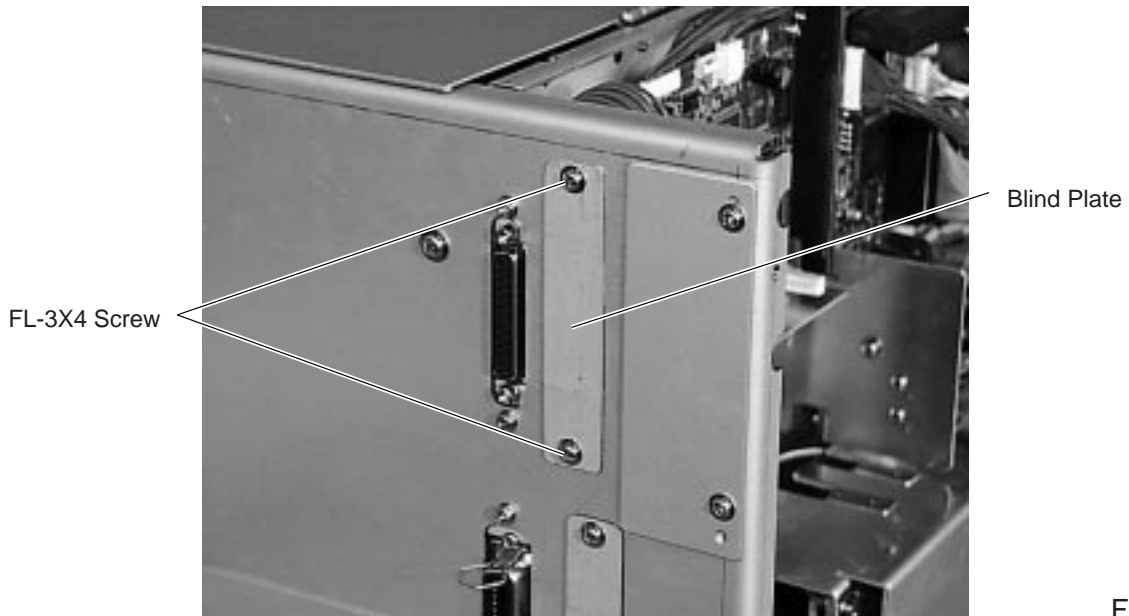

Fig. 3-2
4. Connect the CN51 on the PCMCIA PC board to the CN9 on the CPU PC board. (Refer to Fig. 3-2)